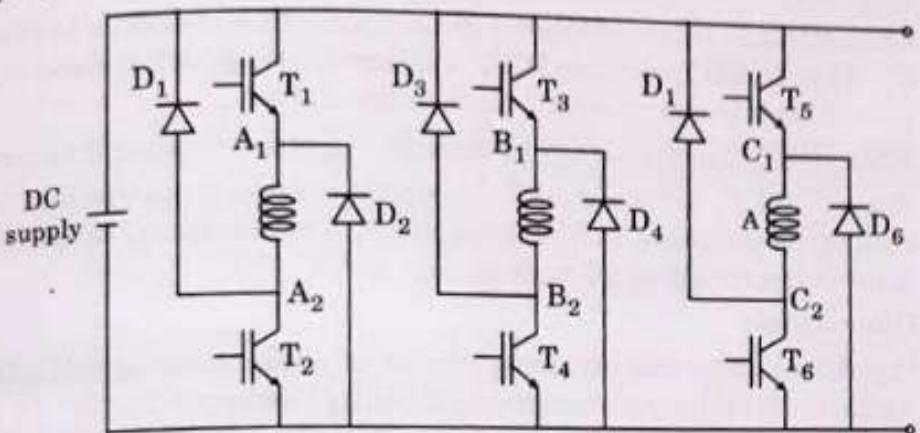

Fig. 3.7.1.
1. The clamico bridge converter with two power switches and two diodes per phase is shown in Fig. 3.7.1.